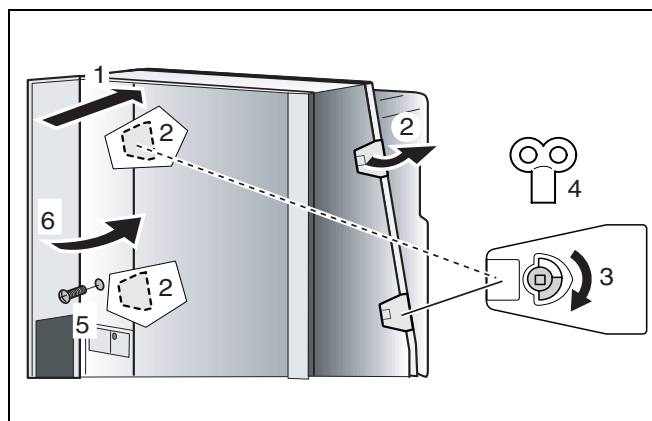

fig. 40 Fitting the boiler casing
- Put the casing in place (fig. 40, item 1).
- Close (fig. 40, item 2) and lock the clasps (fig. 40, item 3) with the radiator key (fig. 40, item 4).
- Turn in the screw (fig. 40, item 5).
- Close the cover of the control panel (fig. 40, item 6).